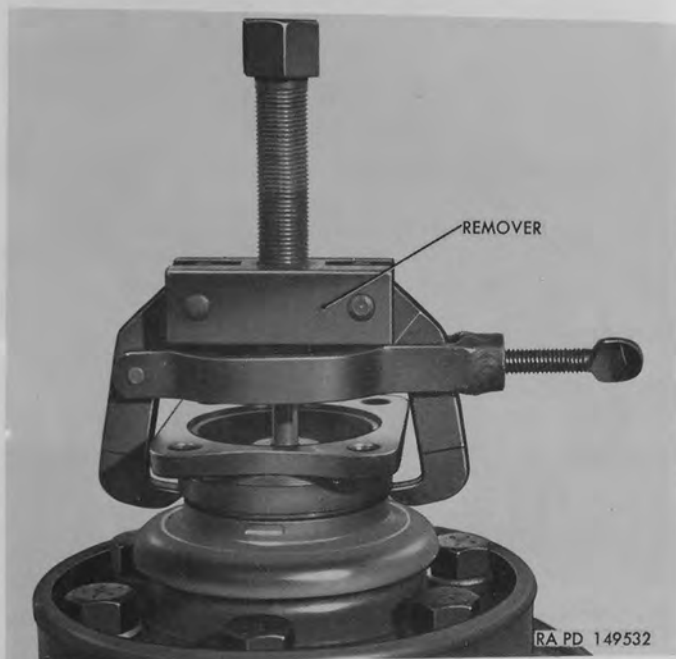

Figure 135. Removal of propeller shaft flange with remover 41-R-2367-950.
- (1) *Removal of propeller shaft flange.*—Use tool 41-T-3215-910 to prevent flange with deflector and sleeve assembly (LL) from turning while nut (JJ) is removed, also remove plain washer (KK). Install remover 41-R-2367-950 in manner illustrated in figure 135; then thread screw into puller until flange is removed.